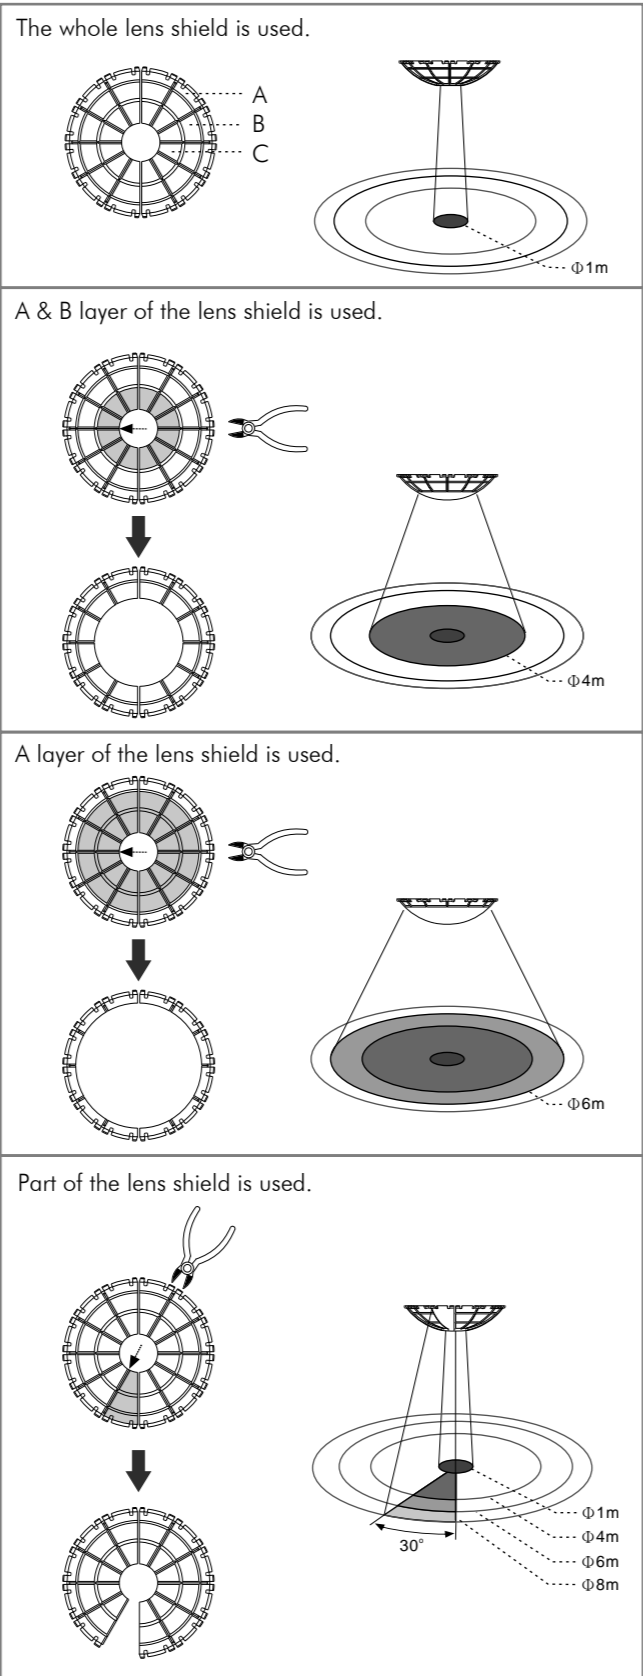

FIG.16
- The shadow part of the lens shields in the FIG.16 is referring to the cut off parts.